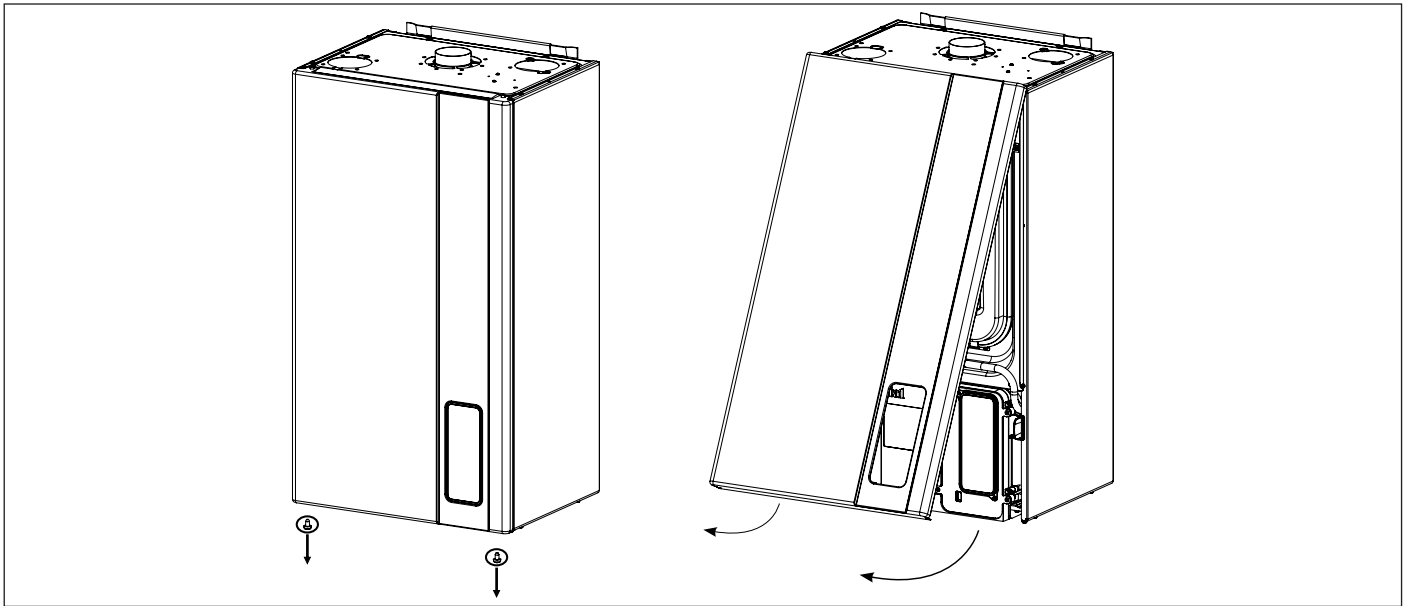

Fig. 20 Front casing opening
- Remove boiler outer front panel (see Fig. 20 Front casing opening).